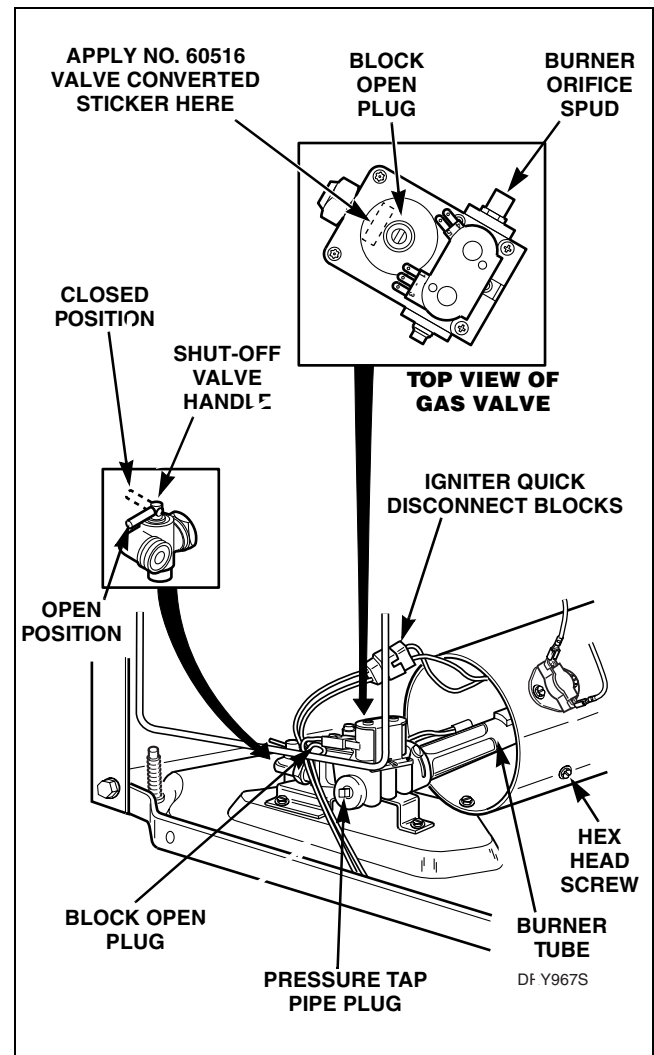

Figure 47
- Disconnect igniter wires at quick disconnect blocks. Refer to *Figure 47*.
- Remove hex head screw holding burner tube and igniter in place. Refer to *Figure 47*.
- Remove the block open plug and install No. 58768 Vent Screw. Refer to *Figure 47*.
- Install No. 60516 “Valve Converted to Natural Gas” Sticker to top side of gas valve so it covers the gas valve part number. Refer to *Figure 47*.
- Turn the gas line shut-off valve handle to the open position and connect electrical service. Refer to *Figure 47*.
- Remove pressure tap pipe plug. Refer to *Figure 47*.
- (4) Stop dryer and remove “U” tube and reinstall the pressure tap pipe plug. Refer to *Figure 47*.